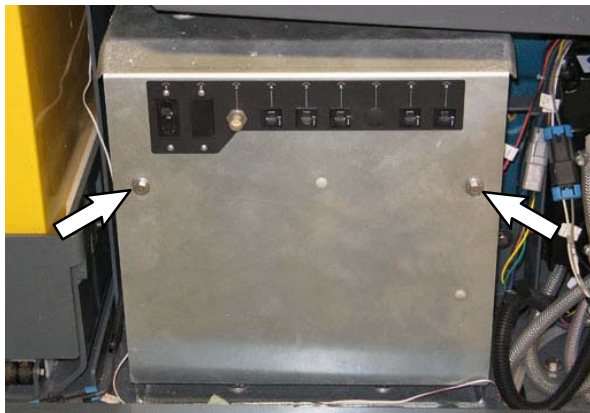
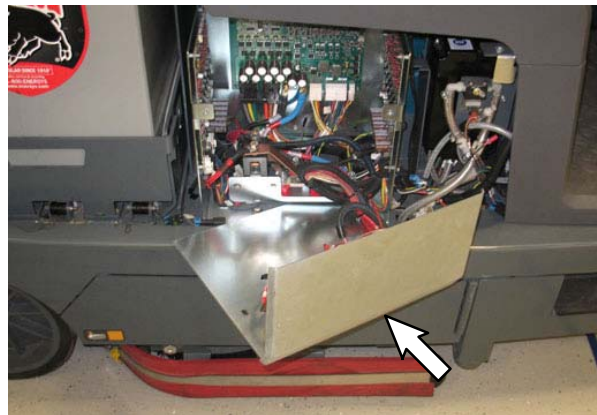

FIG. 2
FIG. 3
6. Remove both SEMS M6 hex screws securing the electrical enclosure cover to the electrical enclosure. Set the SEMS M6 hex screws aside. (Fig. 2)
7. Carefully remove the electrical enclosure cover from the electrical enclosure and position the electrical enclosure cover out of the way. **Do Not** break or damage wires / wire connections when removing the electrical enclosure cover from the electrical enclosure. (Fig. 2 / Fig. 3)